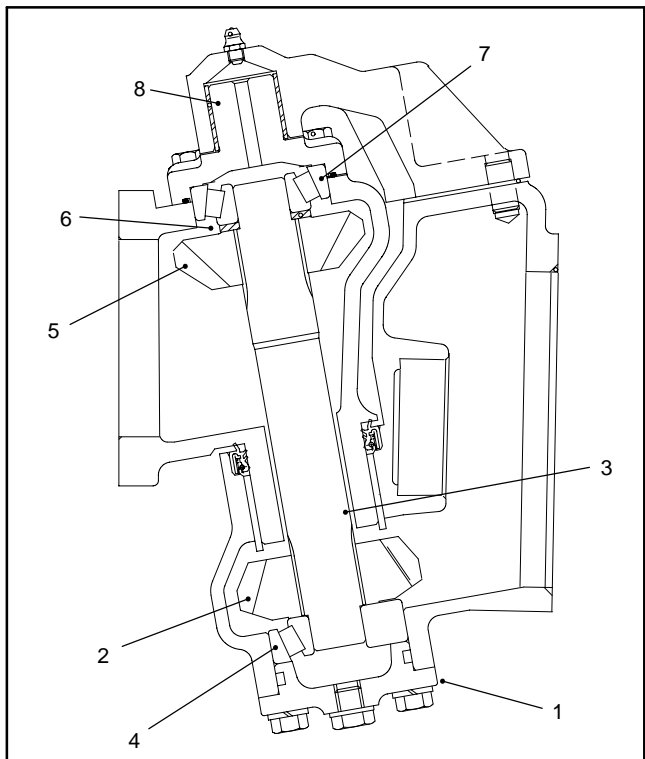

Figure 23
2. Install the lower bevel gear and bevel gear shaft in the axle case cover. Coat a new O-ring with grease and install the axle case cover (Fig. 23). Tighten cover screws from **17 to 20 ft-lb (23 to 27 N-m)**.
3. Slide the bevel gear case over the bevel gear shaft and install the bevel gear and collar. Make sure the bevel gear shaft is completely seated in the upper and lower bearings (Fig. 23).